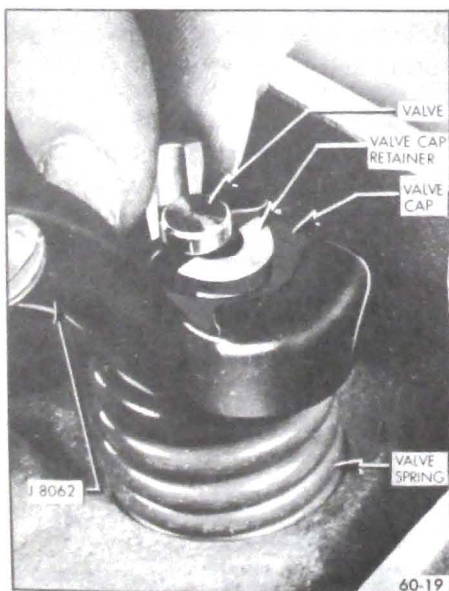

Figure 60-105 - Removing Valve Cap Retainers
spring and remove valve spring cap keys. Release tool and remove spring and cap then, remove oil seal. See Figure 60-105.
21. Rinse push rod seat and plunger retainer, place these parts in end of body and depress with handle of Remover J-5238 until retainer engages groove in body. See Figure 60-105.